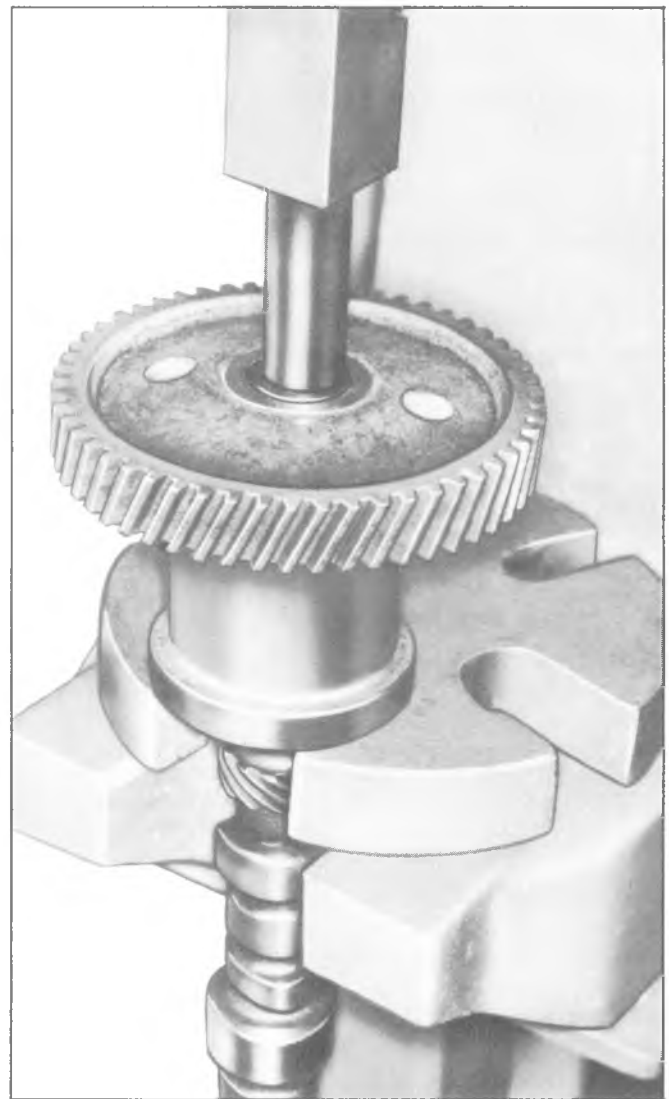

Fig. 6A-41--Removing Camshaft Gear
2. Turn crankshaft and camshaft so that the valve timing marks on the gear teeth will line up (fig. 6A-38). Push camshaft into position. Install camshaft thrust plate-to-block bolts and torque to specifications.